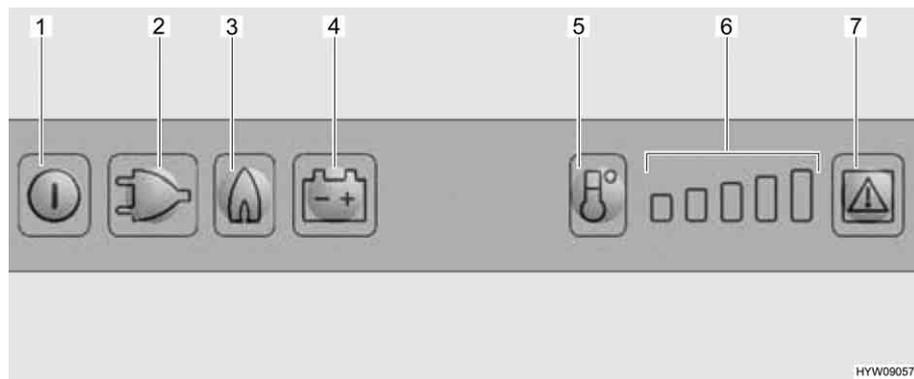

Fig. 132 Operating controls for the refrigerator
- Press and hold the On/Off button (Fig. 132,1) for about 2 seconds. The refrigerator switches itself on. The button of the operating mode chosen most recently lights up.
- If necessary, press the button for the operating mode "Gas" (Fig. 132,3). The button lights up. Gas supply is open. Ignition will take place automatically. A ticking sound can be heard until ignition has been completed successfully.
- Use the temperature range selection button (Fig. 132,5) to set the refrigerating temperature.
- If necessary, press the button for the operating mode "230 V" (Fig. 132,2). The button lights up.
- If necessary, press the button for the operating mode "12 V" (Fig. 132,4). The button lights up.